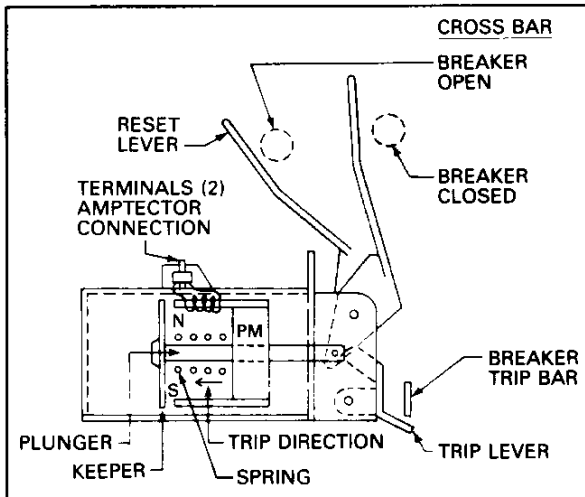

Fig. 3 Actuator Diagram
When the actuator receives a tripping pulse from the Amprector, it releases a mechanical force to trip the breaker. The actuator is made up of a permanent magnet and a spring (see Fig. 3). When the breaker is open, the cross bar pushes the reset lever. The reset lever moves the plunger out, and the plunger then compresses the spring and pulls the keeper until it contacts the pole pieces of the magnet. Although the magnet cannot pull and reset the keeper against the force of the spring acting on the plunger, it can hold the spring force when the keeper is in contact with the magnet. A current pulse from the Amprector counteracts the effects of the permanent magnet allowing the spring to separate the keeper from the magnet and move the plunger to actuate the trip lever.
- Operate the actuator a few times. Alternately pull back on the reset lever (see Fig. 3) and then trip by applying 9 to 12 volts D-C (be sure to use correct polarity) to the terminals.